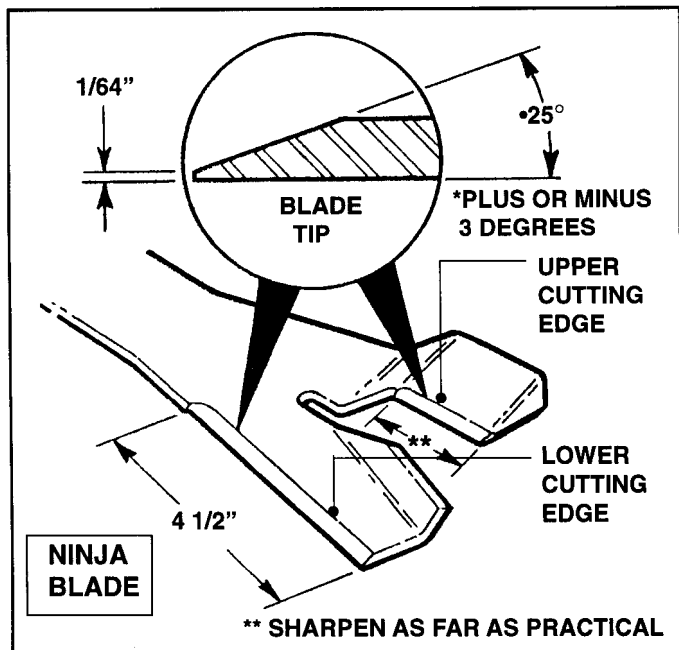

FIGURE 9.7
- C. Sharpen both cutting edges on each end of the Blade at an angle of 22 to 28 degrees. The cutting surface should extend inward about 4-1/2" from the tip of the lower cutting edge and as far as practical from the tip of the upper cutting edge. See Figure 9.7 on Page 9.5.